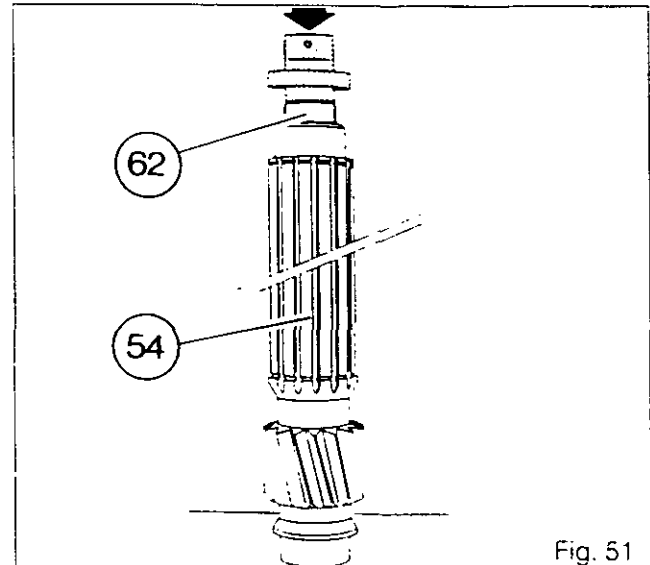

Fig. 51
182. Fit the needle roller bearing (62) against the shoulder on the shaft (54) using a press (Fig.51).